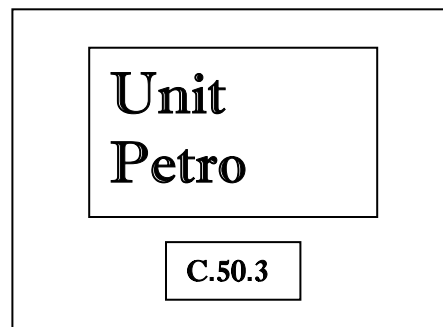

Figure 30
If the dispenser has not been programmed since it came from the factory, the default is Petro (volume). See Figure 30.
8. To change the setting, use the 1 through 6 buttons on the keypad to enter the base digit. The money and the volume display each have six digits. From the left the first digit equals 1, the second digit is 2, and so on. The default is 5, see figure 30. If the emulation is a 1 to 10 pulser, option 4 would be the setting.